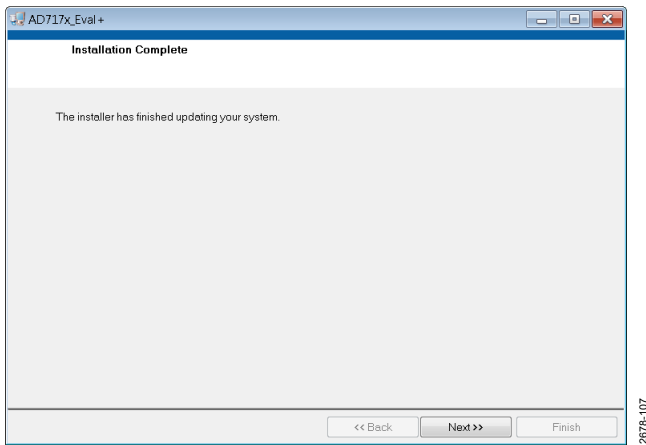

Figure 7. AD717x Eval+ Installation Complete
7. The message in Figure 7 appears when the installation is complete.